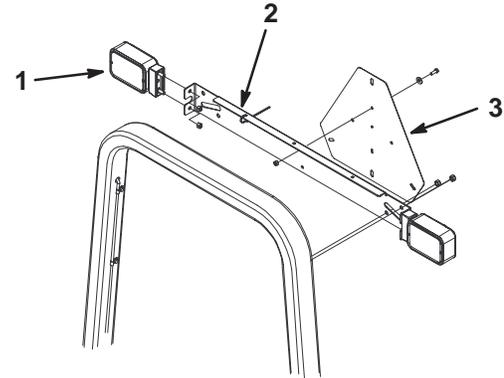

Figure 10
- Mount a tail light assembly to each end of the light bracket with 2 locknuts (5/16–18) as shown in Figure 10.
- Loosely mount each end of the light bracket to the ROPS with a U-bolt and 2 locknuts (3/8–16) as shown in Figure 10.